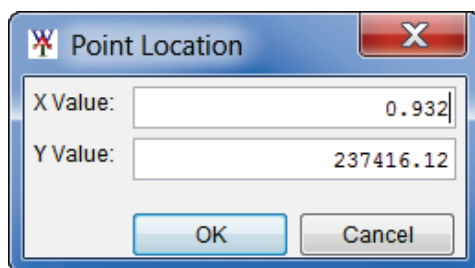

Figure M.9 Point Location Dialog Box
2. A **Point Location** dialog box will open (Figure M.9), displaying the X-axis value and the Y-axis value of where the user pointed to on the plot. The user can change the values, but that means the marker point will be drawn somewhere else. Click **OK**, the **Point Location** dialog box will close (Figure M.9) and the marker point will display on the plot.